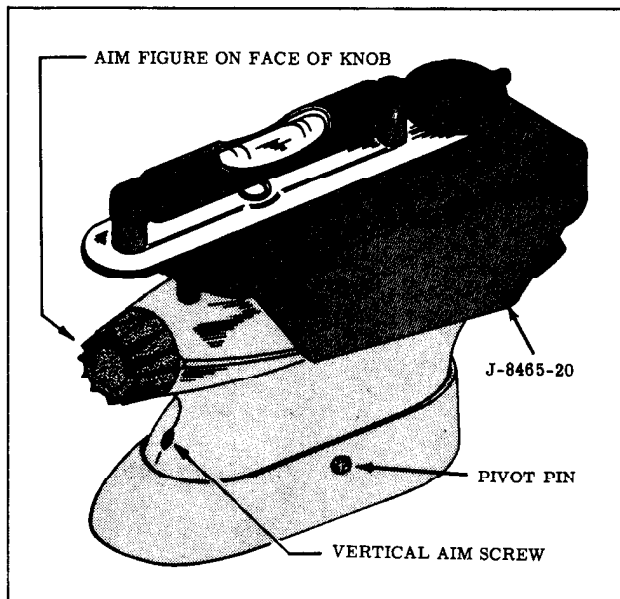

Fig. 13-97 Level Installation
4. Set the level J-8465-20 on top of phototube unit as shown in Fig. 13-97.
5. Observe number stamped on driver control knob (Fig. 13-97) Adjust aiming dial until corresponding number is under pointer.